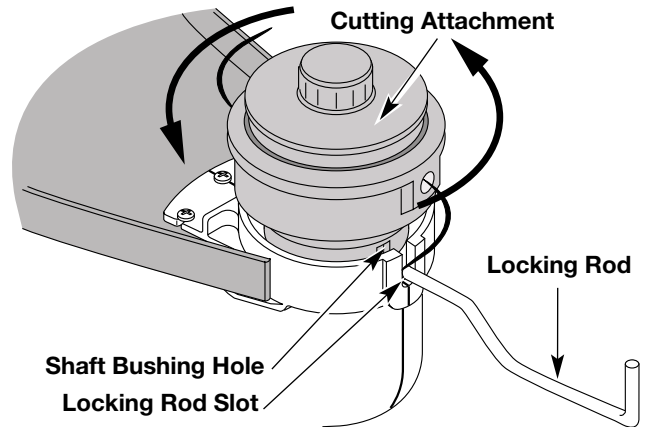

Fig. 9
1. Align the shaft bushing hole with the locking rod slot and insert the locking rod into the shaft bushing hole (Fig. 9).
2. While holding the locking rod, remove the cutting attachment by turning it counterclockwise off of the output shaft (Fig. 9). Store the cutting attachment for future use.